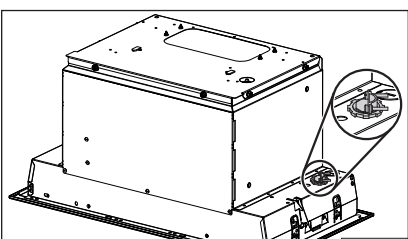

FIG. 16
4. Punch out one of the two knock-out holes. Install an appropriate 7/8" diameter strain relief (not included, grey part in FIG. 16). NOTE: The HCK44 cord connection kit (optional) can be used instead of the house power cable. Refer to the instruction packed with the HCK44 cord connection kit.